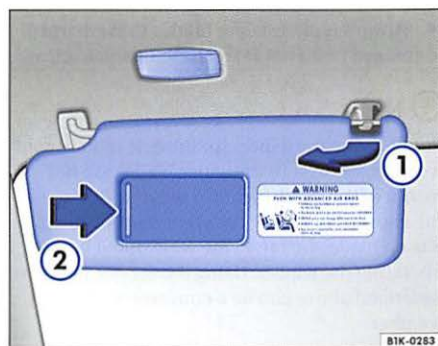

Fig. 43 Sun visors on the driver side
The sun visor for the driver and the front passenger can be pulled out of its retaining clip in the center of the vehicle and turned toward the doors ⇒ fig. 43 ①.